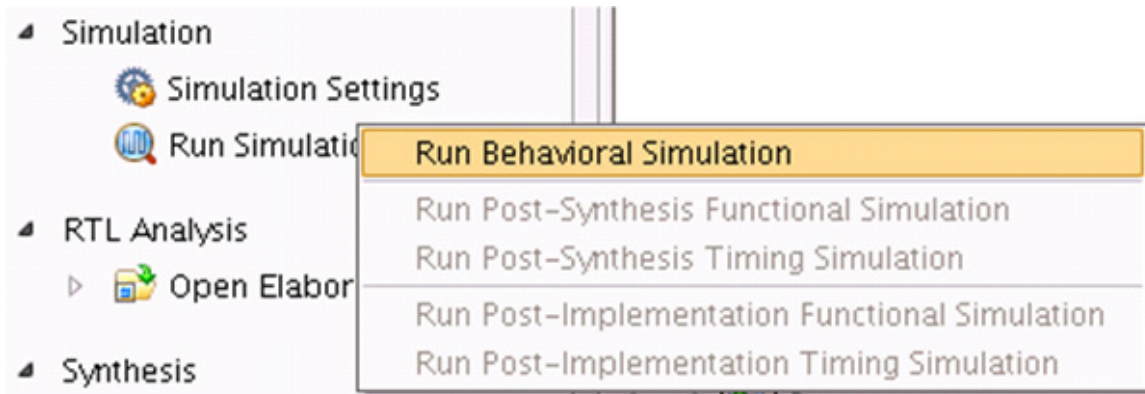

Figure 4-40: Run Behavioral Simulation
3. In the Flow Navigator window, select **Run Simulation** and select **Run Behavioral Simulation** as shown in Figure 4-40.
4. In the **Flow Navigator** window, select **Run Simulation** and select **Run Behavioral Simulation** as shown in Figure 4-40.